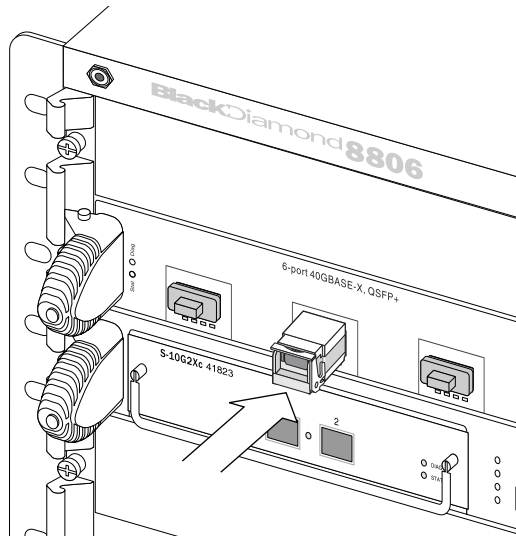

Figure 7: Removing a QSFP Module
1. Rotate the handle (bail latch) on the QSFP module downward (see Figure 7).